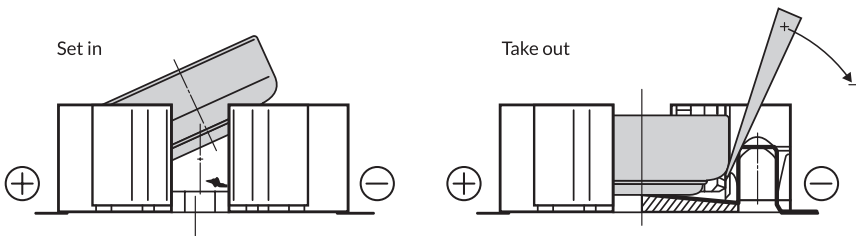

Fig. 8
- Carefully remove the battery from the battery holder located on the electronic display board with extra care to avoid any damage to the battery support (it is recommended to use a flathead small screwdriver for this operation) and replace it with a new one, as shown in **Fig. 8.**